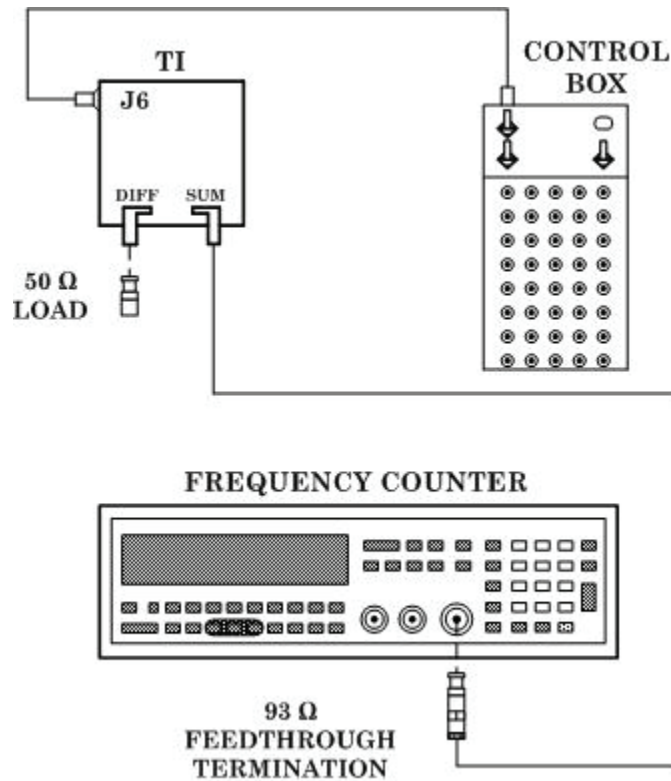

Figure 10. Transmitter frequency accuracy - equipment setup.
- (1) Connect equipment as shown in figure 10.